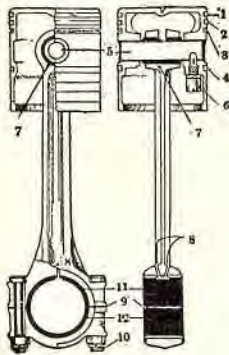

Fig. 38. Piston and connecting-rod assembly. Names of parts are as follows:
Parts of a connecting-rod and piston assembly are shown in Fig. 38.
The piston pin or wrist pin (5) (Fig. 38) is the pin on which upper part of the connecting-rod swings. It is sometimes made of solid steel, but usually of hollow case-hardened steel. It is also called a "gudgeon" pin. It is non-adjustable, and therefore, when worn, the piston pin must be renewed.
- (1) The stationary, or "setscrew" or "anchored" type piston pin.
- (2) The oscillating, or "semi-floating" piston pin.
- (3) The full-floating piston pin, or "plain pin."
The stationary piston pin² (Figs. 38 and 39) is used where there is one bronze bushing in the end of the connecting-rod, which oscillates on the piston pin. The pin is held tight by a lock screw at hole (H) (Fig. 39). They are usually fitted directly in the piston bosses.